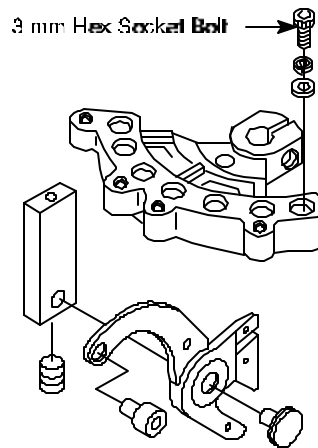

Figure 2
- Using a 3 mm Allen Wrench, **remove** hex socket bolt corresponding to damaged Take-Up Lever. See *Figure 2*.
(IE: Figure 2 illustrates Take-Up Lever #7 is being replaced).